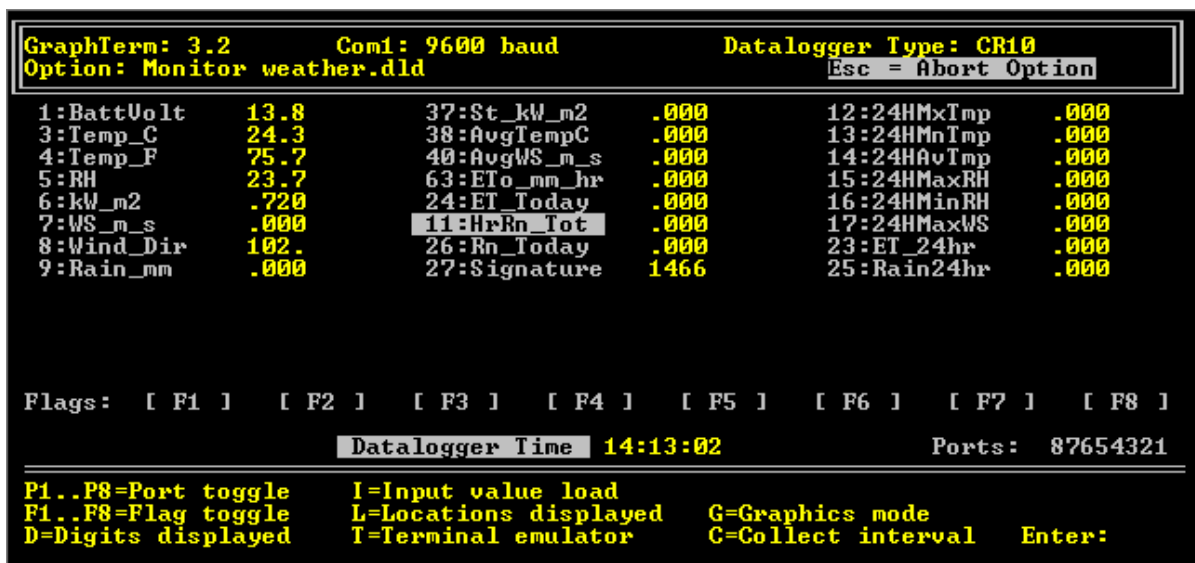

FIGURE 6. Weather Station Real Time Monitoring
2. The computer will call the weather station and a screen similar to Figure 6 should appear.